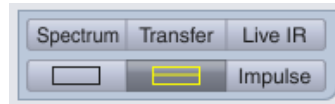

Figure 65: Main display buttons for Real-Time mode
- The two buttons labeled with rectangles divide the main plot area into one or two graph panes: one rectangle, one pane; two rectangles, two panes. Figure 65 shows the double-pane option selected.